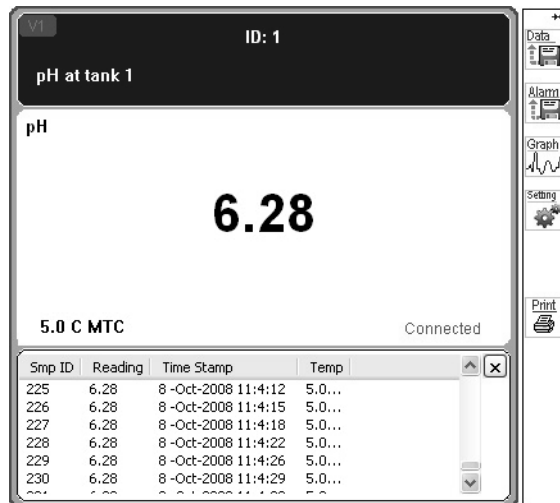

Figure 13 : View Window Pop-Up Menu
1. Click on a view window. A pop-up menu will appear (Figure 13).